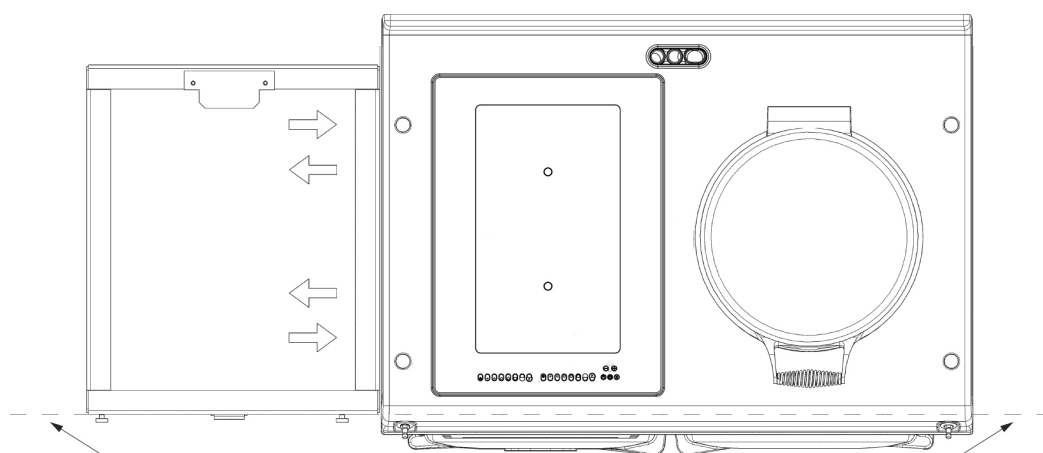

Fig. 5.5
4. Run a straight edge along the front of the AGA Signature (eR7i) plinth, to ensure the front face of both plinths sit squarely against the straight edge. (**Fig. 5.5**)